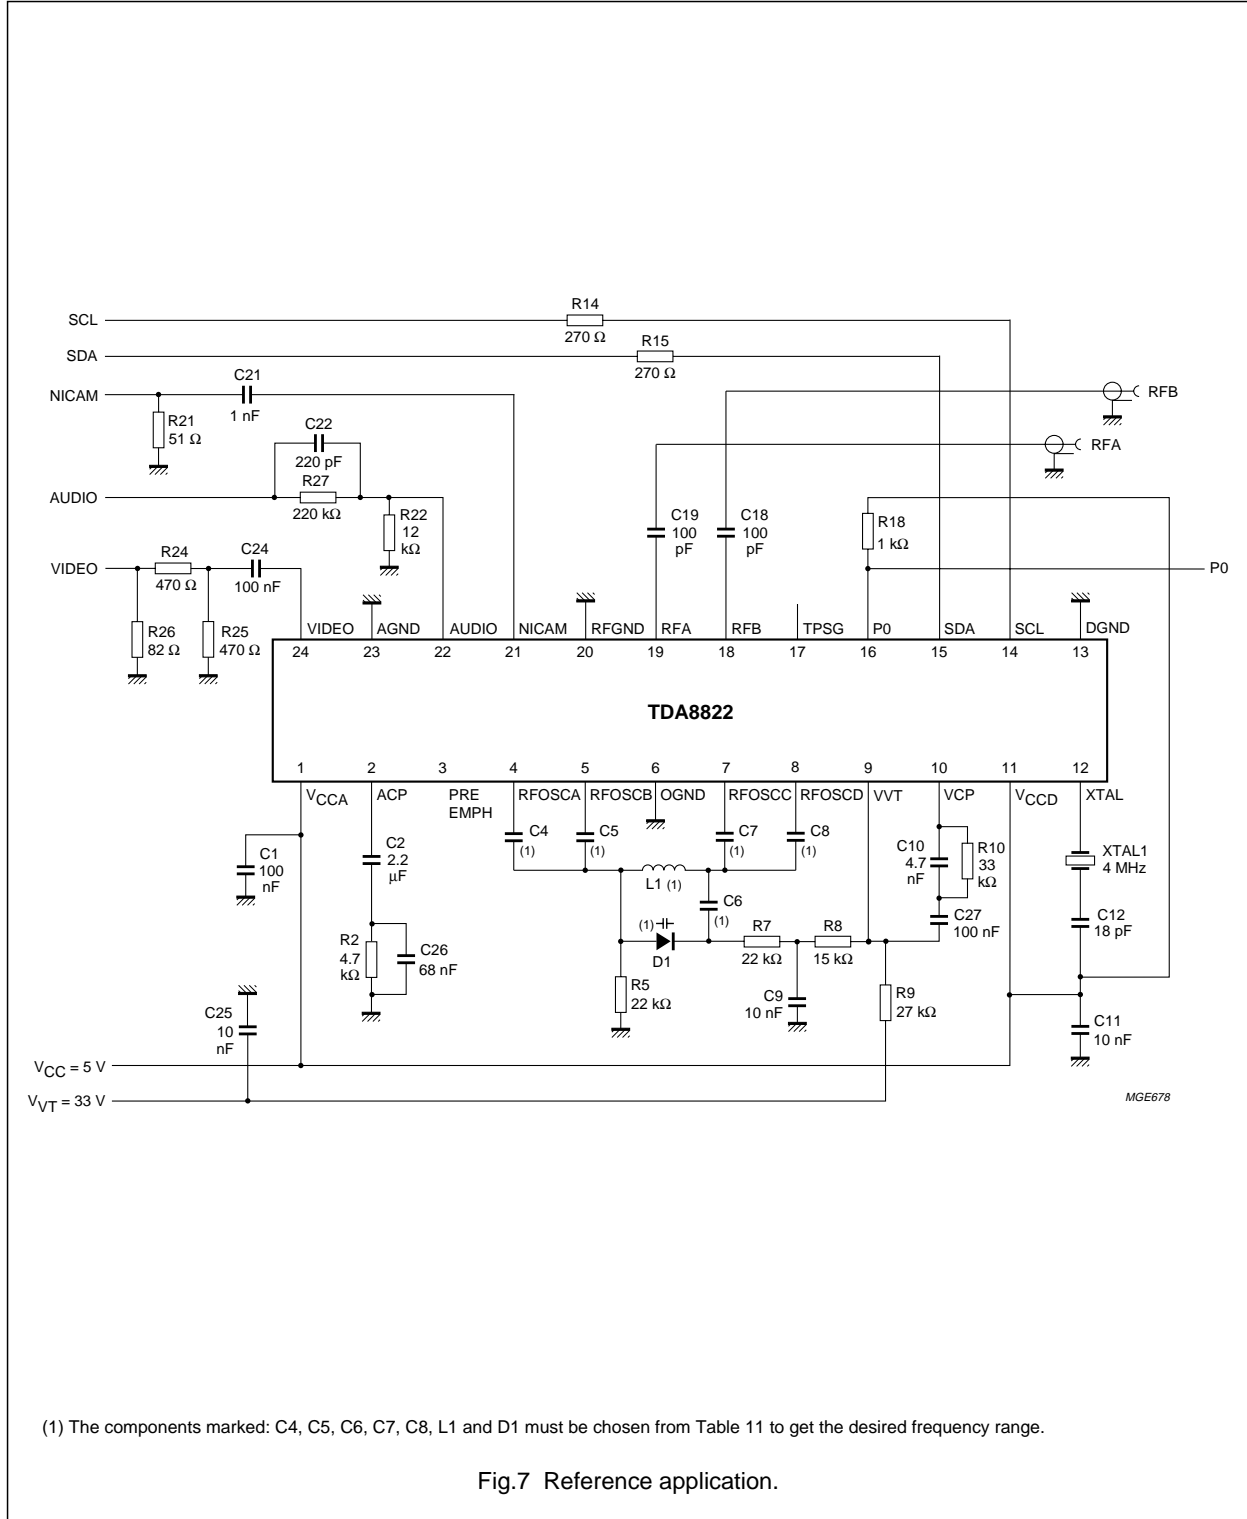

Fig.7 Reference application.
The frequency range the IC covers is fixed by the choice of the components marked with a note (1) in Fig.7. For these components, it is recommended to use the values indicated in Table 11.
To handle this kind of signal, we use a resistive divider with two 470 Ω resistors (R24 and R25 in Fig.7) to divide the 1 V (p-p) signal down to 500 mV (p-p). In order to get an input impedance of 75 Ω, a resistor of 82 Ω is implemented in parallel to the divider (R26 in Fig.7).
This pin needs to be grounded through a 12 kΩ resistor (R22 in Fig.7). Care must then be taken if a coupling capacitor needs to be implemented on the audio path to connect it between the signal source and the input, with the resistor of 12 kΩ still connected to the AUDIO pin.
It is necessary to connect the loop filter between this pin and ground. The loop filter indicated in Fig.7 gives a cut-off frequency lower than 20 Hz.